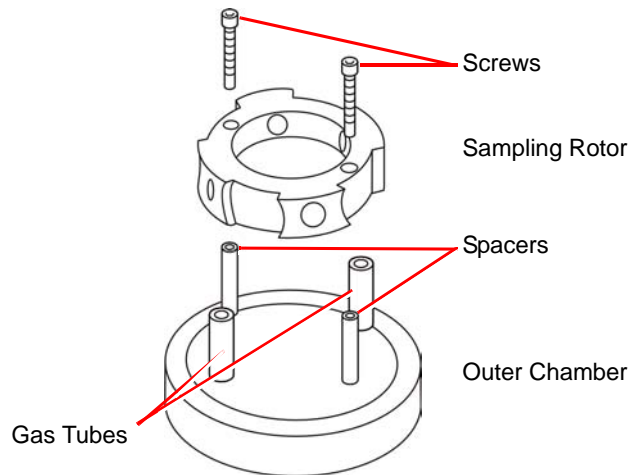

Figure 8-21 Sampling Rotor Assembly
2. Remove the two screws securing the sampling rotor to the outer chamber (Figure 8-21).